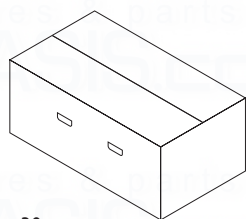

Fig. 30
1. Remove staples, open flaps and remove the cardboard sheet. Remove the polystyrene side pieces and literature. Two people can then lift out the boiler (Figs. 30 & 31).